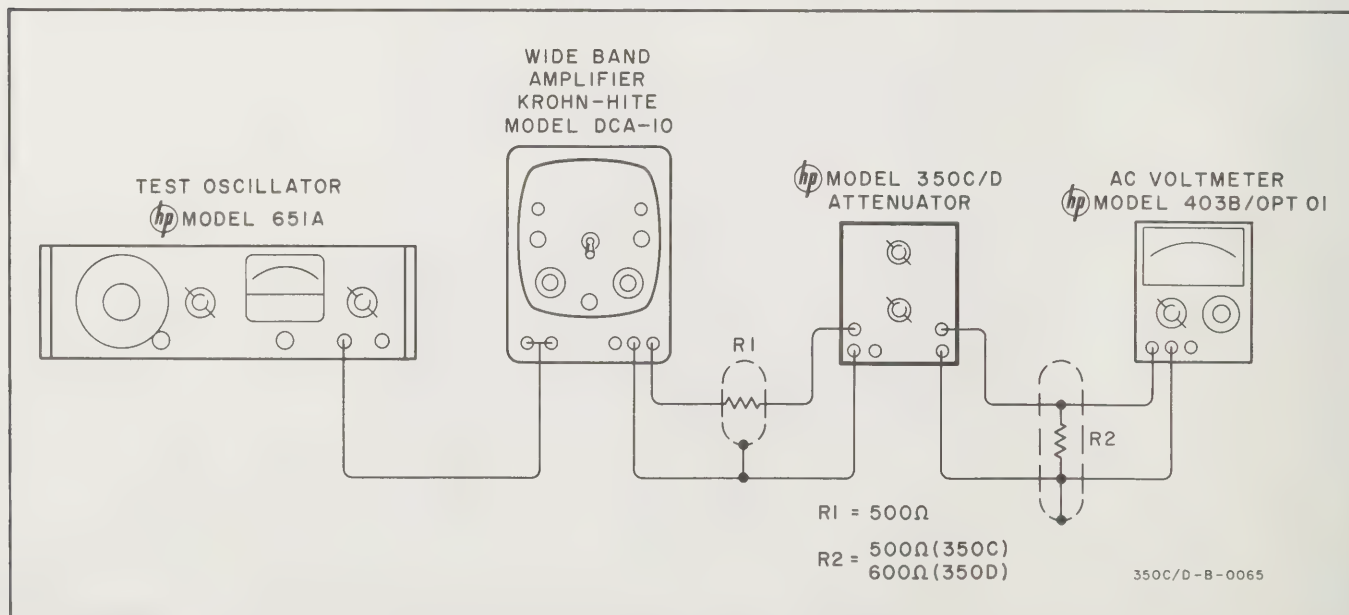

Figure 5-6. AC Performance Test Setup
5-14. The ac performance test setup is illustrated in Figure 5-6. An Oscillator (hp Model 651A), an Amplifier (Krohn-Hite DCA-10), and a battery operated AC Voltmeter (hp Model 403B) are required for this test. In addition, 2 Corning Glass Works Co. 500 ohm, 10 watt, LPI-10 $\pm 2\%$ resistors are required for the 350C (one 500 ohm and one 600 ohm, 10 watt, LPI-10 $\pm 2\%$ resistors for the 350D). These resistors must be enclosed in a shield as shown in Figure 5-6. The range-to-range accuracy of the AC Voltmeter from +40 db to -60 db must be known to within 0.1 db at 100 kc and 1 Mc. Any errors should be algebraically subtracted from the error found during the performance test.
- a. Make test setup illustrated in Figure 5-6.